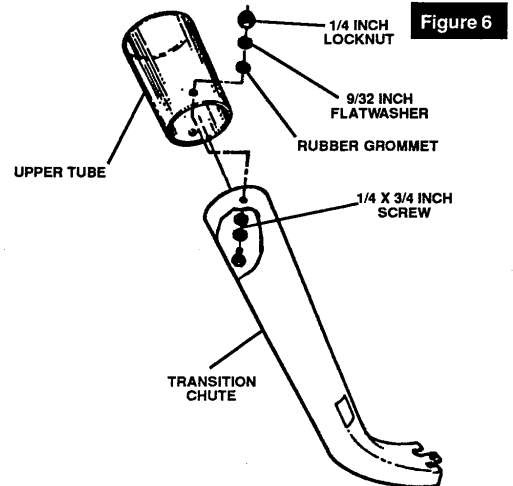

Figure 6
1. Place a rubber grommet into each large hole in upper tube (figure 6).
2. Attach upper tube to transition chute, as shown in figure 6, with two 1/4 x 3/4 inch hex head screws (from inside of transition chute), two large 9/32 inch flatwashers and two 1/4 inch locknuts.